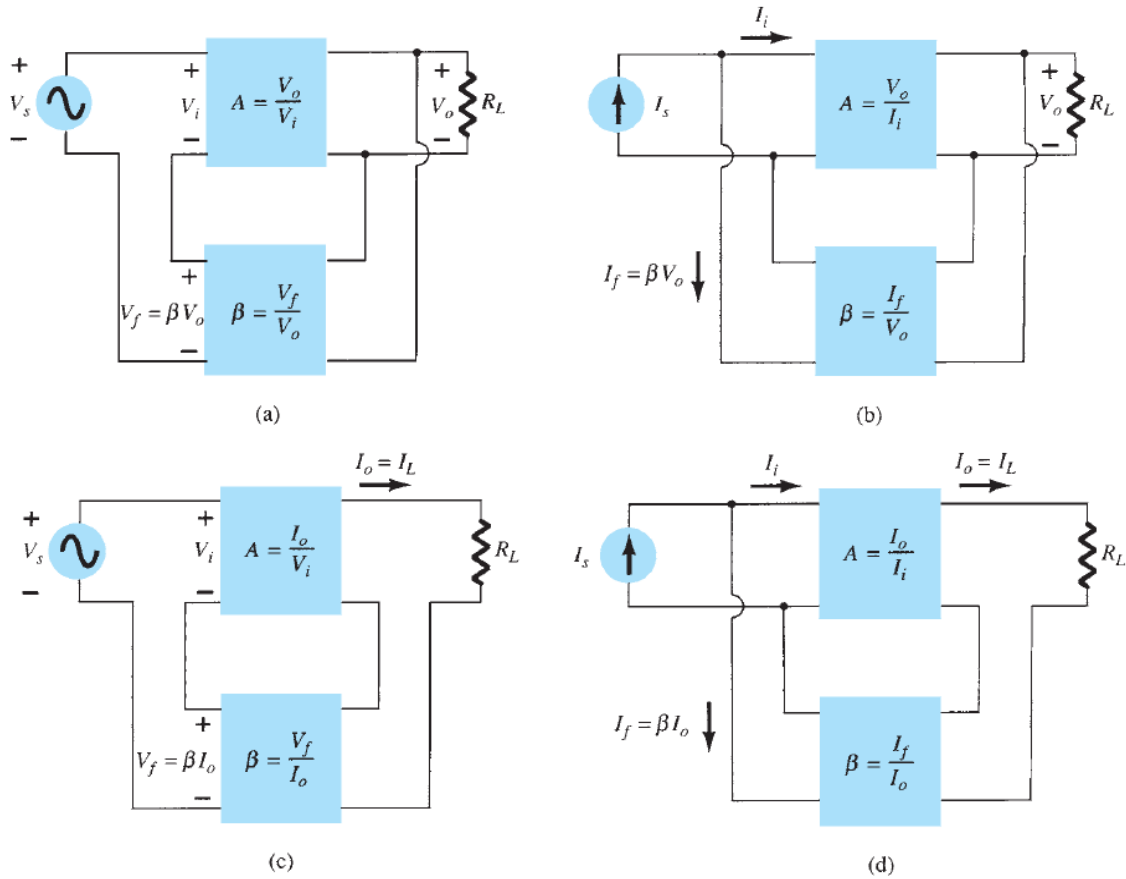

FIG. 2: Feedback amplifier types:
1. Voltage-series feedback ( Fig. 2 a).
2. Voltage-shunt feedback ( Fig. 2 b).
3. Current-series feedback ( Fig. 2 c).
4. Current-shunt feedback ( Fig. 2 d).
The gain without feedback,  $A$ , is that of the amplifier stage. With feedback  $\beta$ , the overall gain of the circuit is reduced by a factor  $(1 + \beta A)$ . A summary of the gain, feedback factor, and gain with feedback of Fig. 2 is provided for reference in Table 1.
**TABLE 1** Summary of Gain, Feedback, and Gain with Feedback from Fig. 2
Figure 2-a shows the voltage-series feedback connection with a part of the output voltage fed back in series with the input signal, resulting in an overall gain reduction. If there is no feedback ( $V_f = 0$ ), the voltage gain of the amplifier stage is:
The input impedance with series feedback is seen to be the value of the input impedance without feedback multiplied by the factor  $(1+\beta A)$ , and applies to both voltage-series ( Fig. 2 a) and current-series ( Fig. 2 c) configurations.
The output impedance for the connections of Fig. 2 is dependent on whether voltage or current feedback is used. For voltage feedback, the output impedance is decreased, whereas current feedback increases the output impedance.